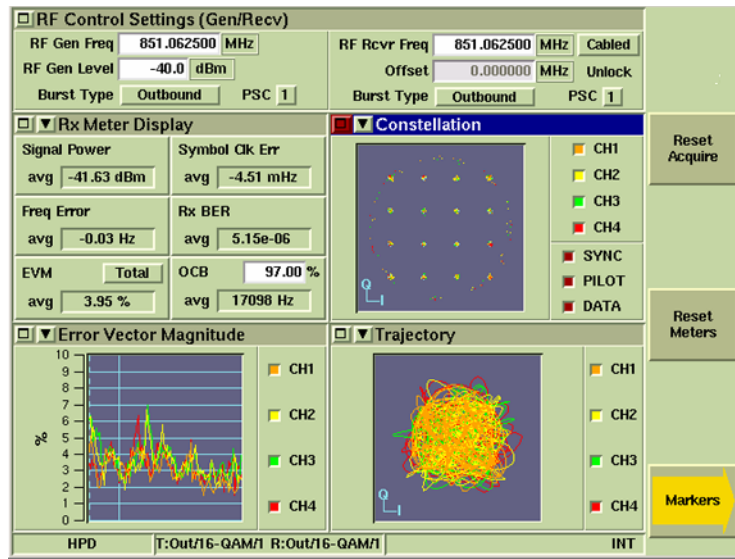

Fig. 5-5 Constellation Tile - 16 QAM Signal
27. Minimize **RF Control Settings Tile** and verify **Constellation Tile** displays a 16 QAM signal as shown in Fig. 5-5.